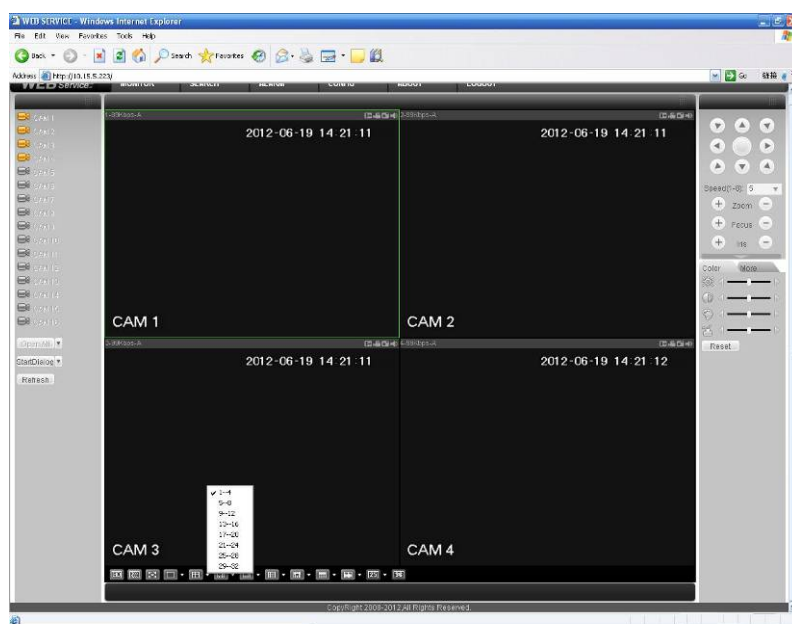

Figure 7-15
- 2) You can select different channel and different monitor mode at the bottom of the interface. See Figure 7-15.